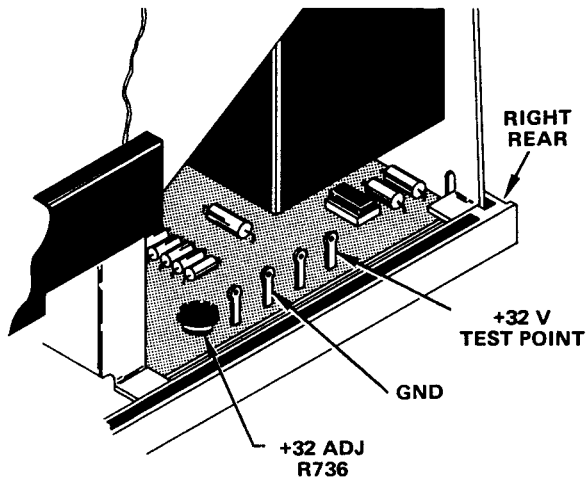
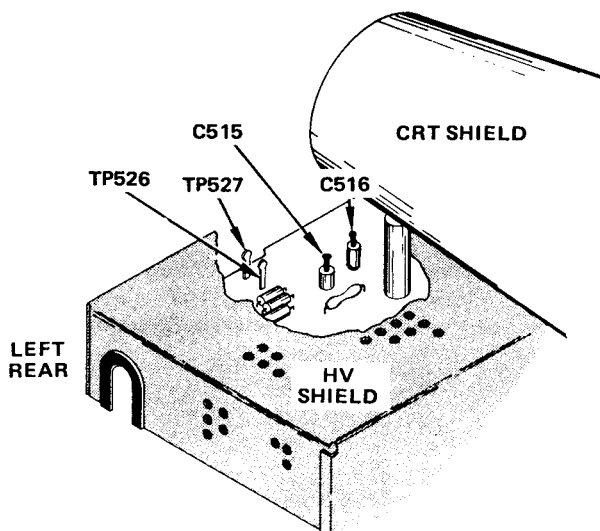

Figure 5-16. +32 volt test point and adjustment location.
Figure 5-17. Crt and Z-Axis test point and adjustment locations.
(2) Turn on the instrument and allow at least five minutes warm-up.
**b. +32 Volt Power Supply (Figure 5-16).**
(1) Connect a digital voltmeter between +32 test point and GND.
(2) Adjust +32 V ADJ, R736 for a +32.0 voltage reading.
(3) Disconnect the voltmeter.
**c. Crt Bias (Figures 5-17 and 5-18).**
(3) Preset front panel controls as follows (set both vertical channels and horizontal sweeps the same unless otherwise indicated):
(4) Disconnect the voltmeter.
(5) Adjust FOCUS and ASTIG for a well defined spot (if spot is not visible, adjust CRT BIAS, R532 until it is; then adjust FOCUS and ASTIG).
(6) Adjust CRT BIAS, R532 until the spot is just visible.
**d. Z-Axis Compensation (Figure 5-17).**
(1) Set A TIME/DIV to .5  $\mu$ s.